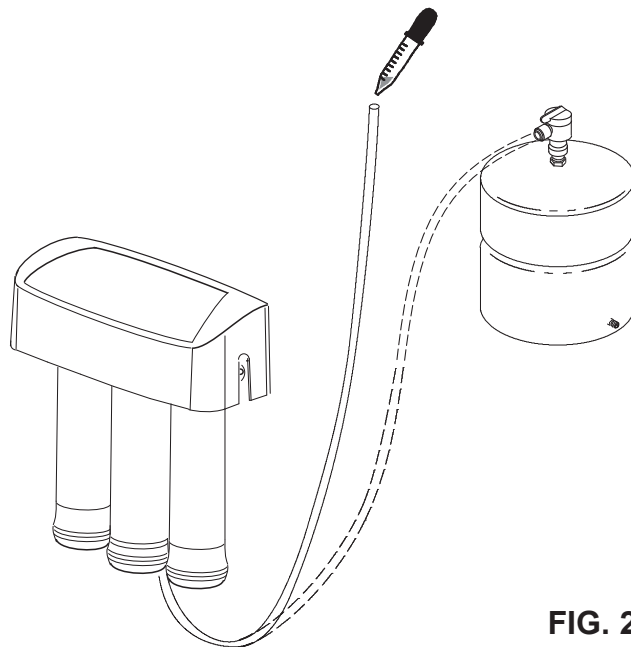

FIG. 24
Sanitizing is recommended immediately after installation of the Reverse Osmosis system. It's also recommended after servicing inner parts. It is important that the person installing or servicing the system have clean hands while handling inner parts of the system. Complete the following steps to sanitize the system. See Fig. 24.
4. Add 3 ml. of bleach into open end of yellow tubing. Handle bleach according to bleach manufacturer's recommendations. See Fig. 24.